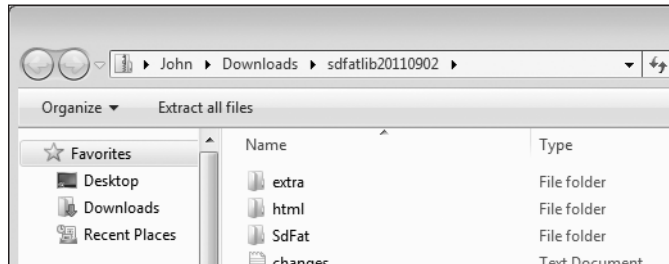
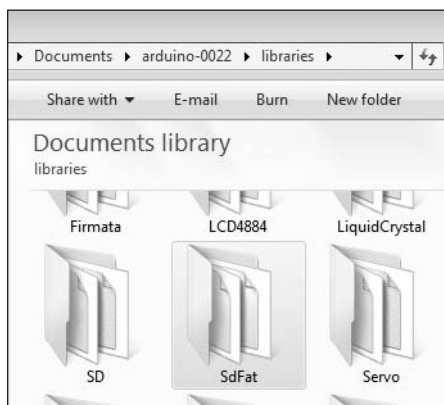

Figure 8-19: Downloaded library folder
Figure 8-20: Completed library installation
- After the download has completed, open the downloaded file folder to reveal its contents, and then locate the *SdFat* folder, as shown in Figure 8-19.
- Copy the *SdFat* folder from the window shown in Figure 8-19 to your *Arduino/libraries* folder, as shown in Figure 8-20.